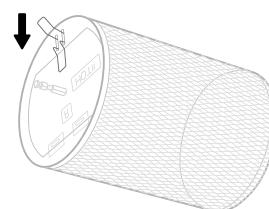

Figure 1.5
1. Press the wire latch to open the door on the side of the rotisserie basket. [Figure 1.5]